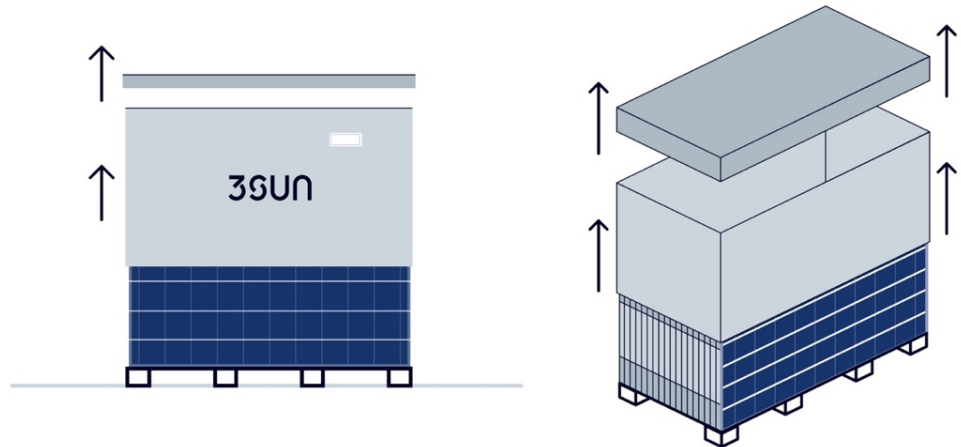

Figure 14: Removal of perimeter cardboard box and box top.
- b) Remove the box cardboard cap and then the perimetral cardboard box (Figure 14).